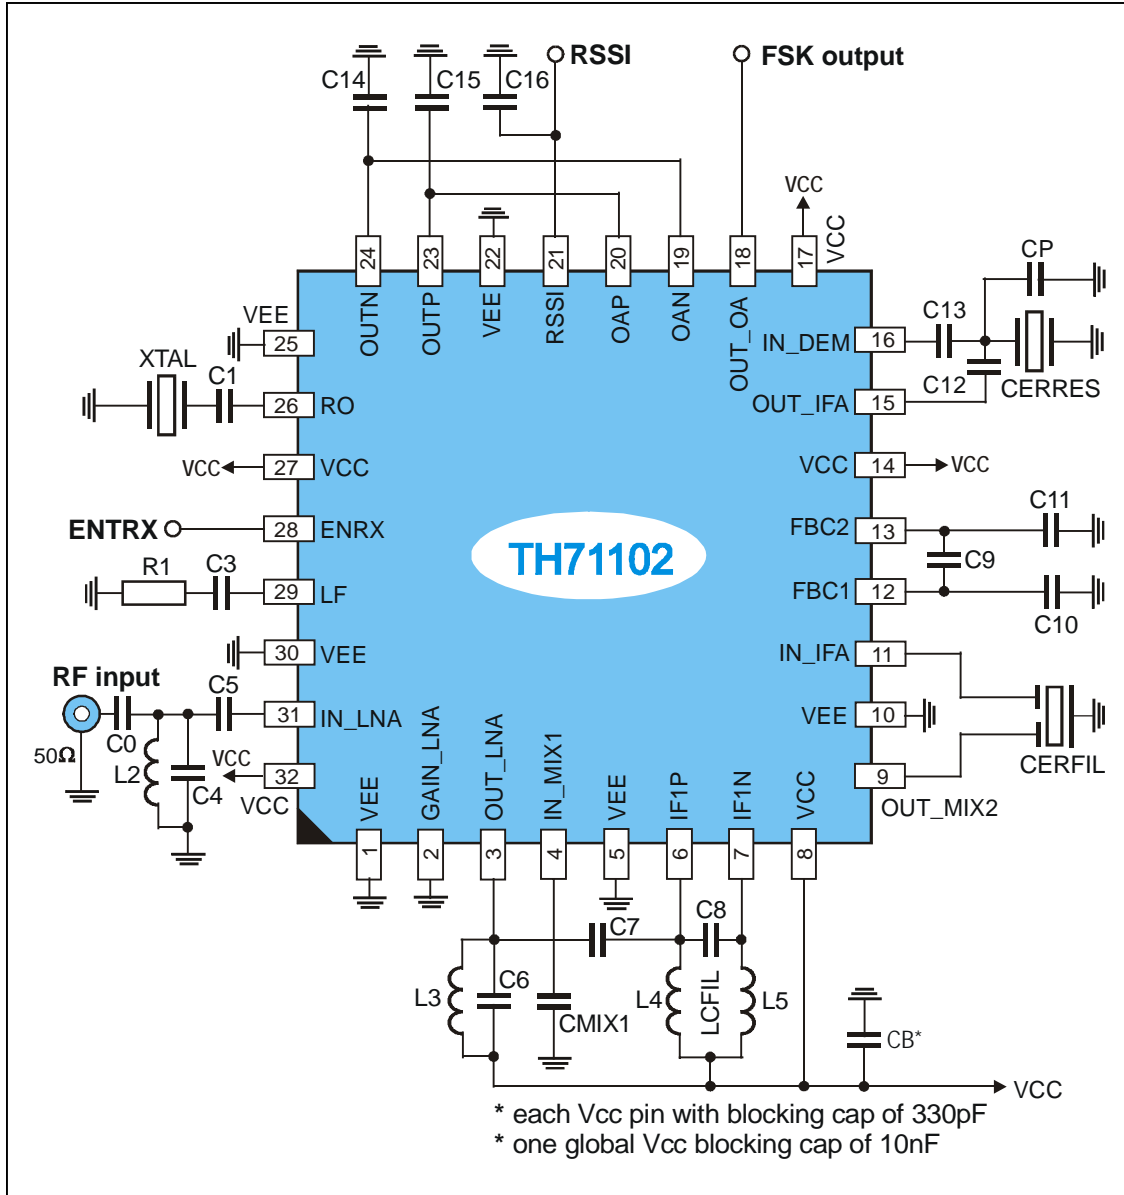

Fig. 2 Circuit diagram for FSK reception
A test board has been setup to validate the theoretical approach of the DCSH-to-SCSH transformation. The board's circuit schematic corresponds to Fig. 2/3 with a receiving frequency of 40.68 MHz, the center frequency of one of the non-specific SRD bands. The most important parameters are summarized in the following table.
4.1 Board Component Values for FSK (Fig. 2)